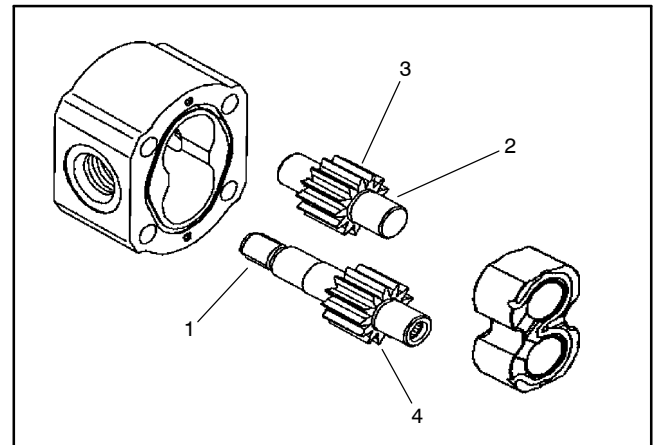

Figure 58
3. Inspect drive gears and idler gears for the following (Fig. 58):